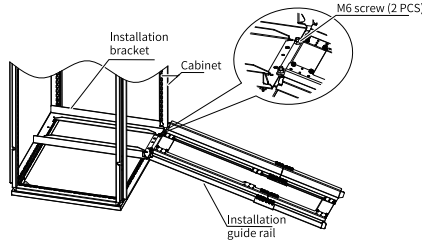

Figure 5-9 Mounting the guide rails to the cabinet
b. Align the two round holes at the front end of the mounting rail with the screws of the mounting bracket, and then lock the guide rail to the cabinet with two M6 nuts, as shown in "Figure 5-9" on page 108.